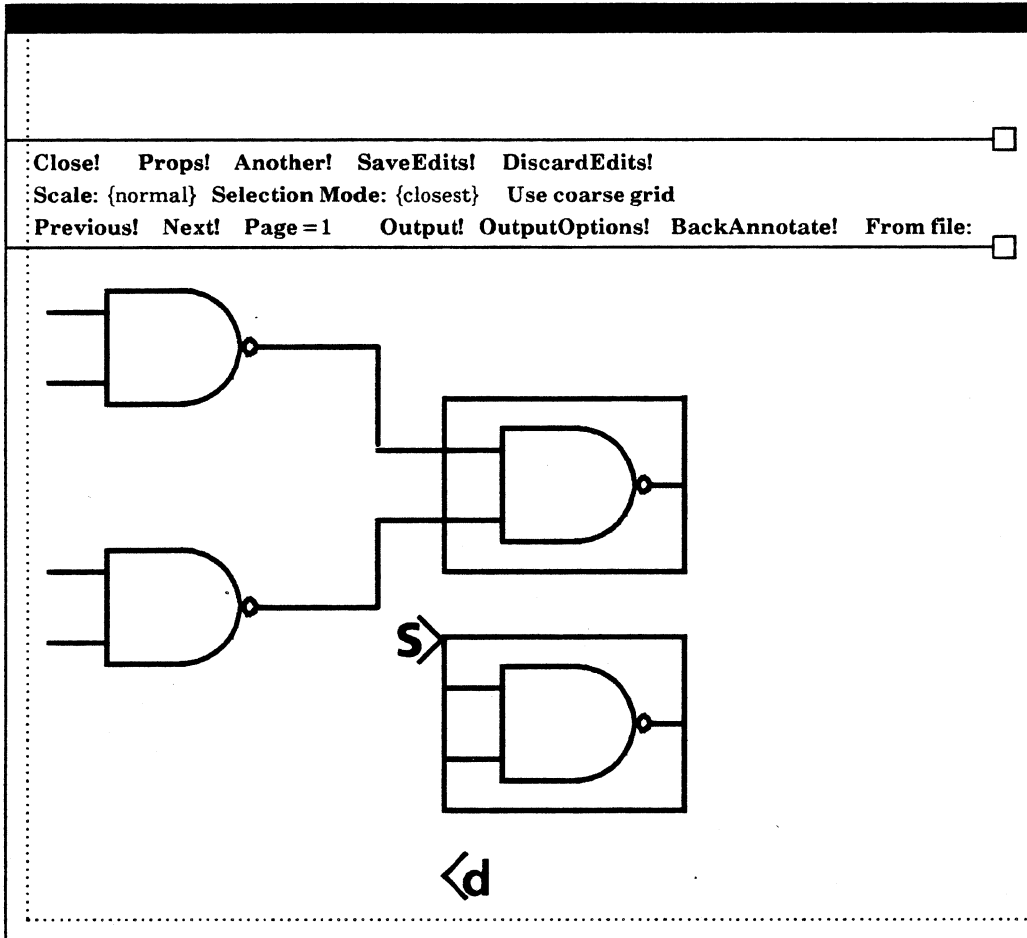

Figure 2.41
- 3) Press the **COPY** key. The system copies the object to the destination point, moves the source marker to the destination point, and moves the destination marker so that it keeps its same position relative to the source marker (figure 2.41).